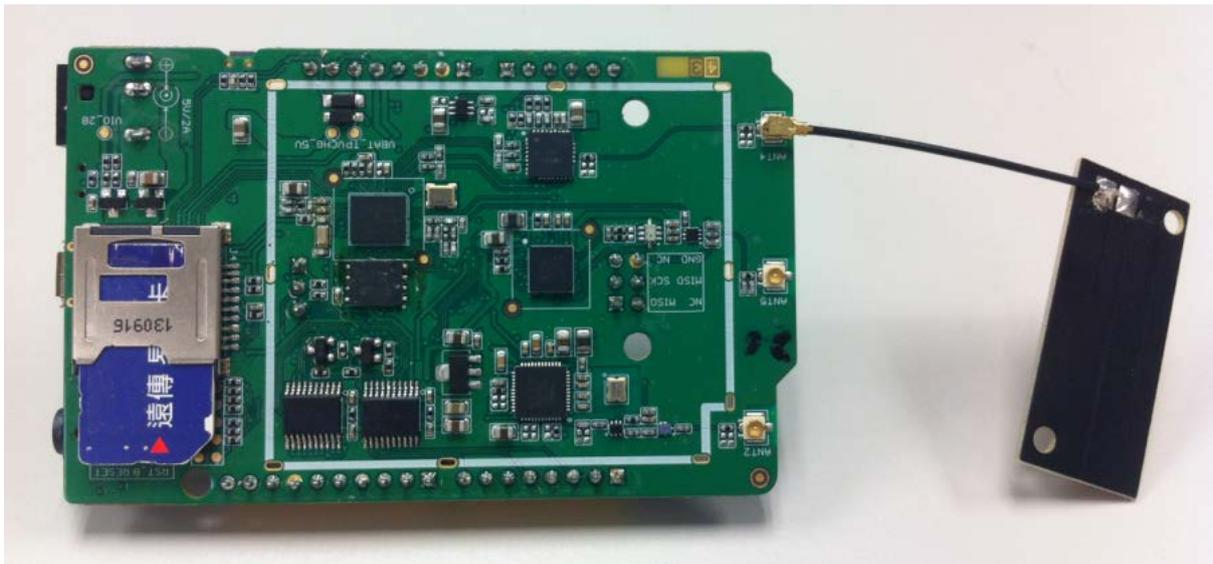

Figure 33 The LinkIt ONE development board with SIM card inserted and GSM antenna attached
To prepare your LinkIt ONE development board, as shown in Figure 33, as follows:
- 2) Attach a GSM/GPRS antenna to the antenna connector, as shown in Figure 33.